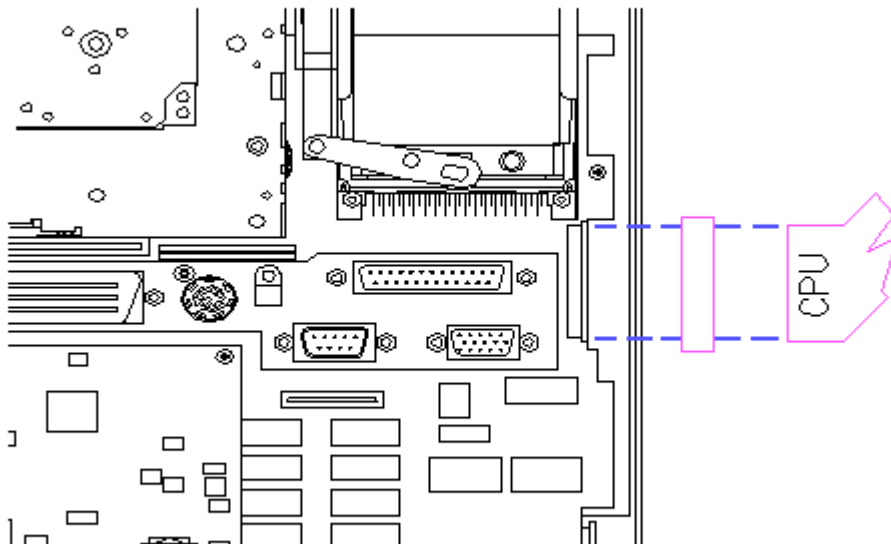

Figure 3-70. Connecting the Display Cable to the System Board
3. Connect the display cable, with ferrite bead, to the system board (Figure 3-70).